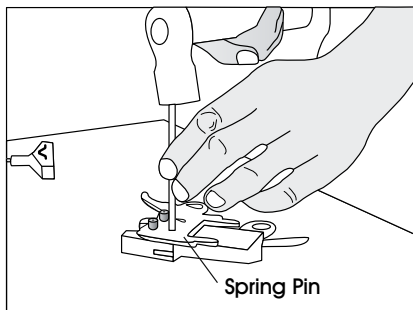

Figure 20
7. Take off the spring pin with a hammer and 6 mm straight rod. (See Figure 20)